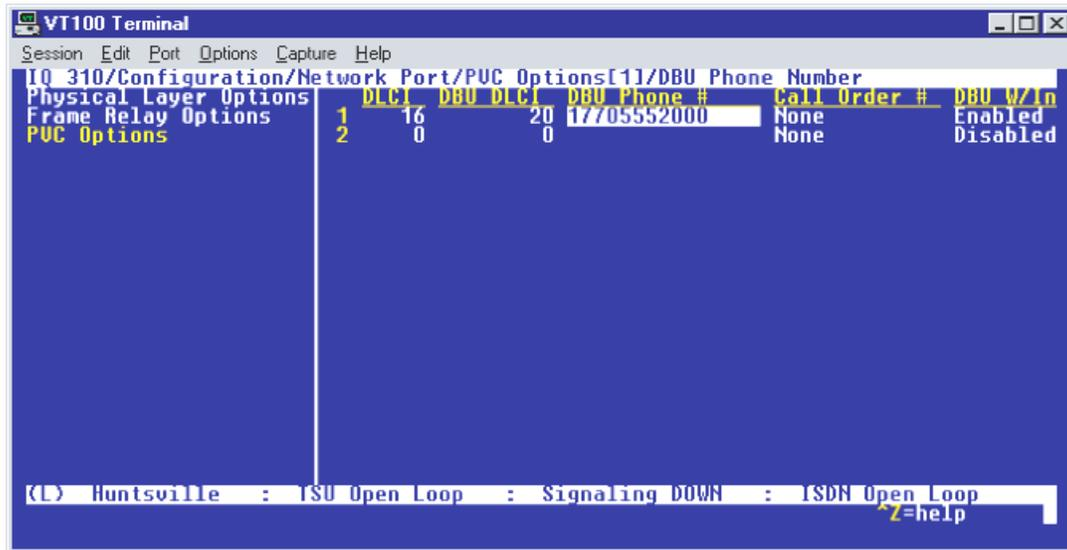

Figure 19. New Entry Screen
- Using the arrow keys, place the cursor over the number 1 (indicating entry 1) to the left of the **DLCI** field; then press the letter I for insert. This creates a new entry in the **PVC OPTIONS** table. The screen shown in Figure 19 should now appear.